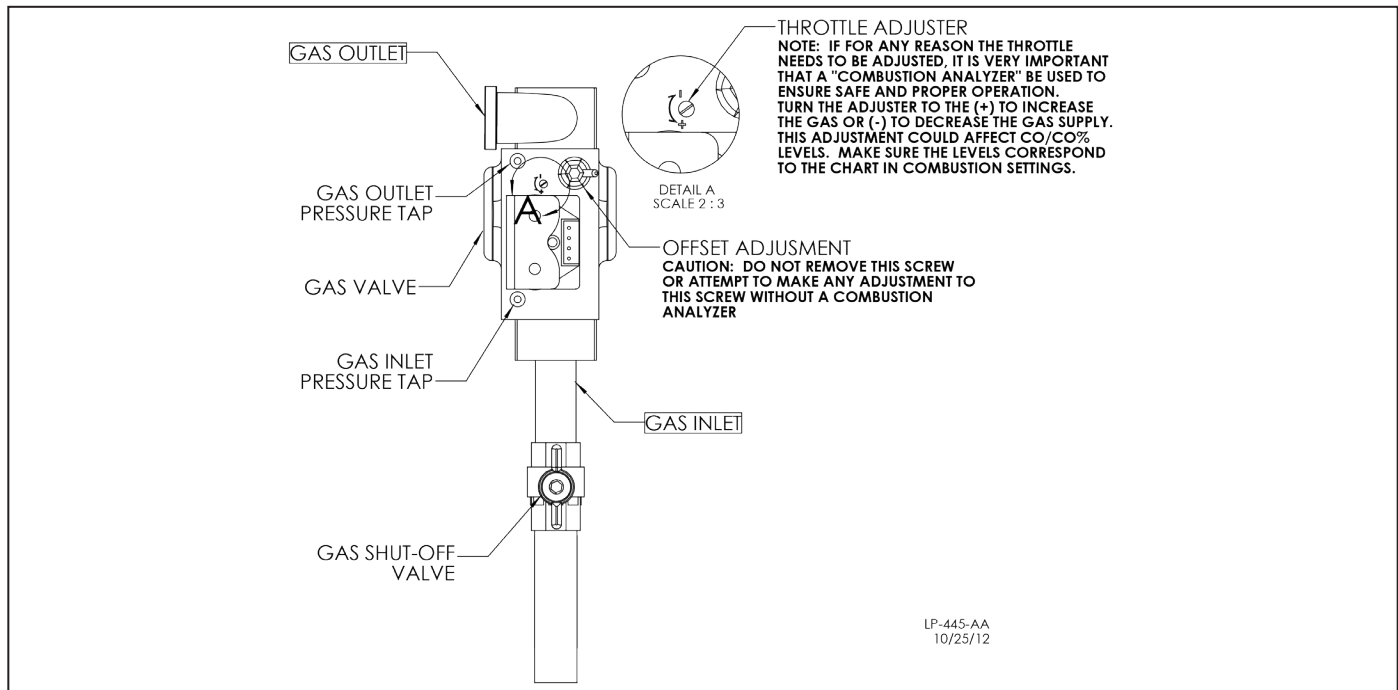

Figure 29 - 1000 Model Gas Valve
2. Loosen the pressure tap with a small screwdriver. Refer to Figures 29 and 30 for location.